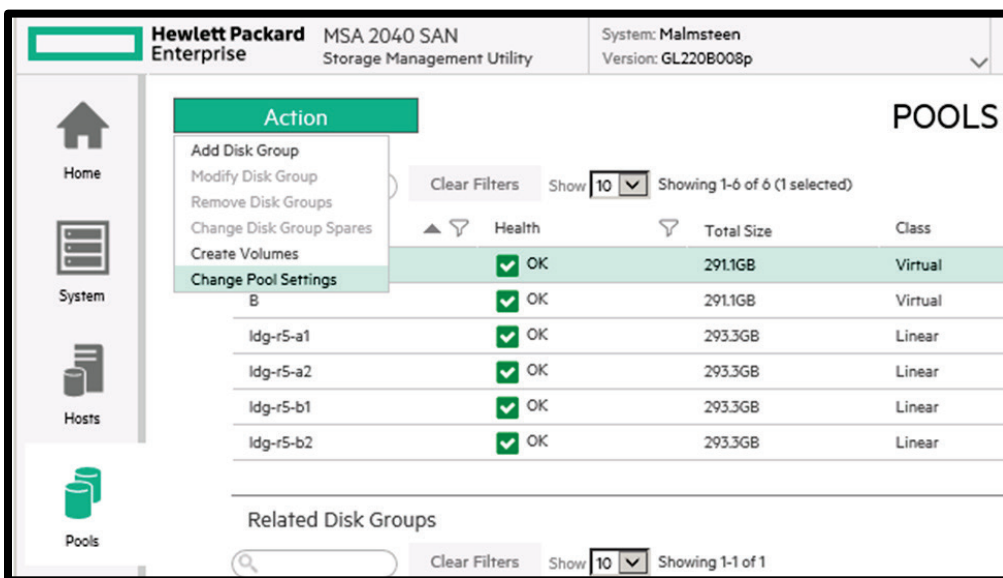

Figure 7. Changing Pool Settings
3. Uncheck the "Enable overcommitment of pool?" by clicking the box. See figures 7 and 8.
See figures 7 and 8 above on how to set the thresholds.